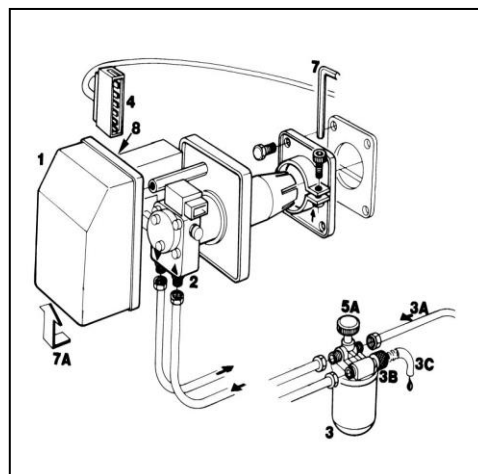

Figure 10
4. Starting of the oil burner (see figure 10):